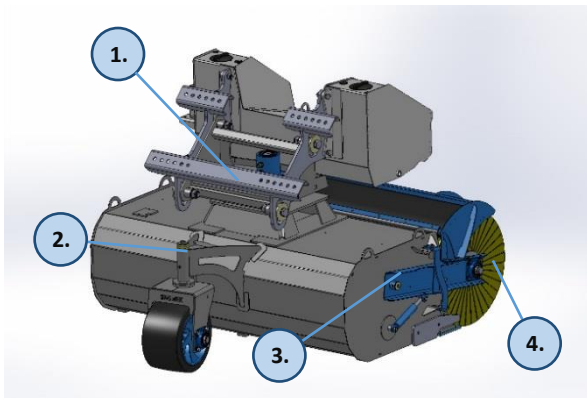

Figure 9
- Grease all lubrication points in accordance with Figure 9.
In a Circulus bucket sweeper, the lubrication points are located as follows (Figure 9):